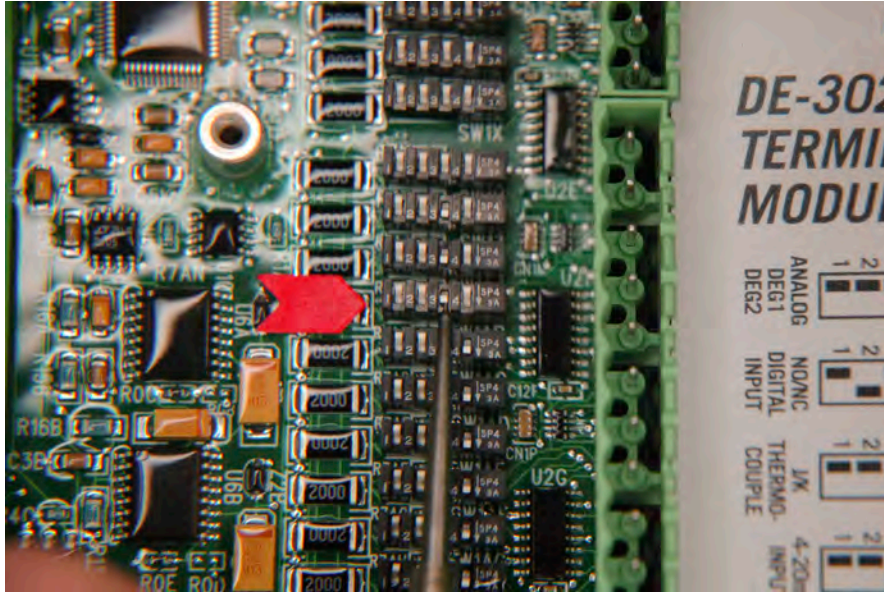

Figure 3
7. Channel 28 (AGV5 I/P) is the seventh switch package up from the power connector end of the terminal board. Using a small screwdriver or pointed tool, gently move switch position 3 to the up position or opposite the direction of the arrow on the switch package (figure 3).